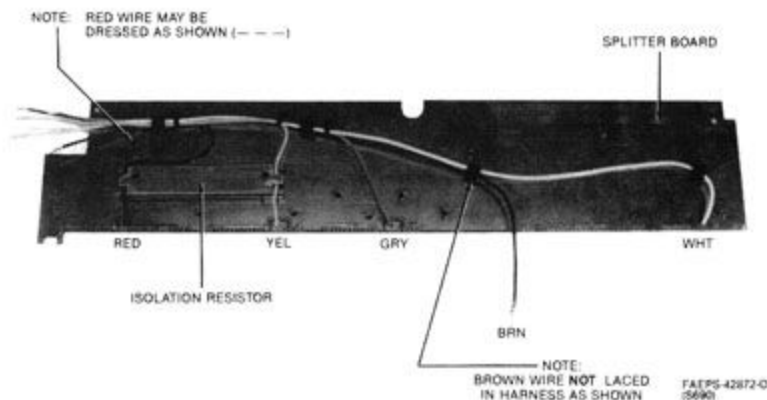

Figure 5. Splitter Board Wiring Harness Dress
Step 1. Properly dress all dc feed wires in their harnesses and route individual wires through isolation resistor bracket where required. Refer to Figure 5.
Step 4. If isolation resistor is under the splitter board, properly dress dc feed wires through isolation resistor bracket as required (refer to Figure 5).